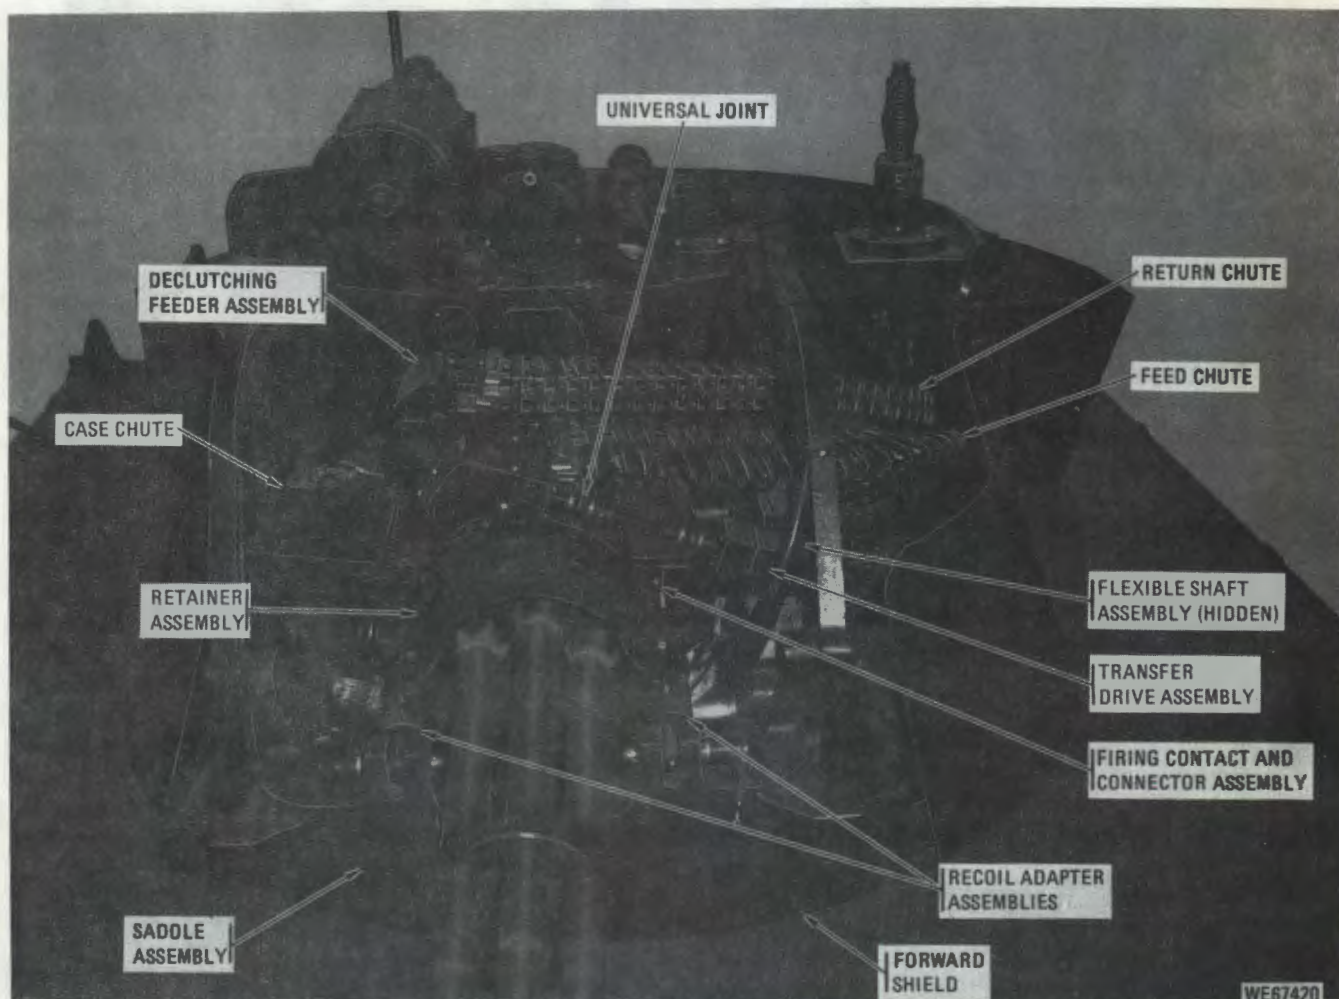
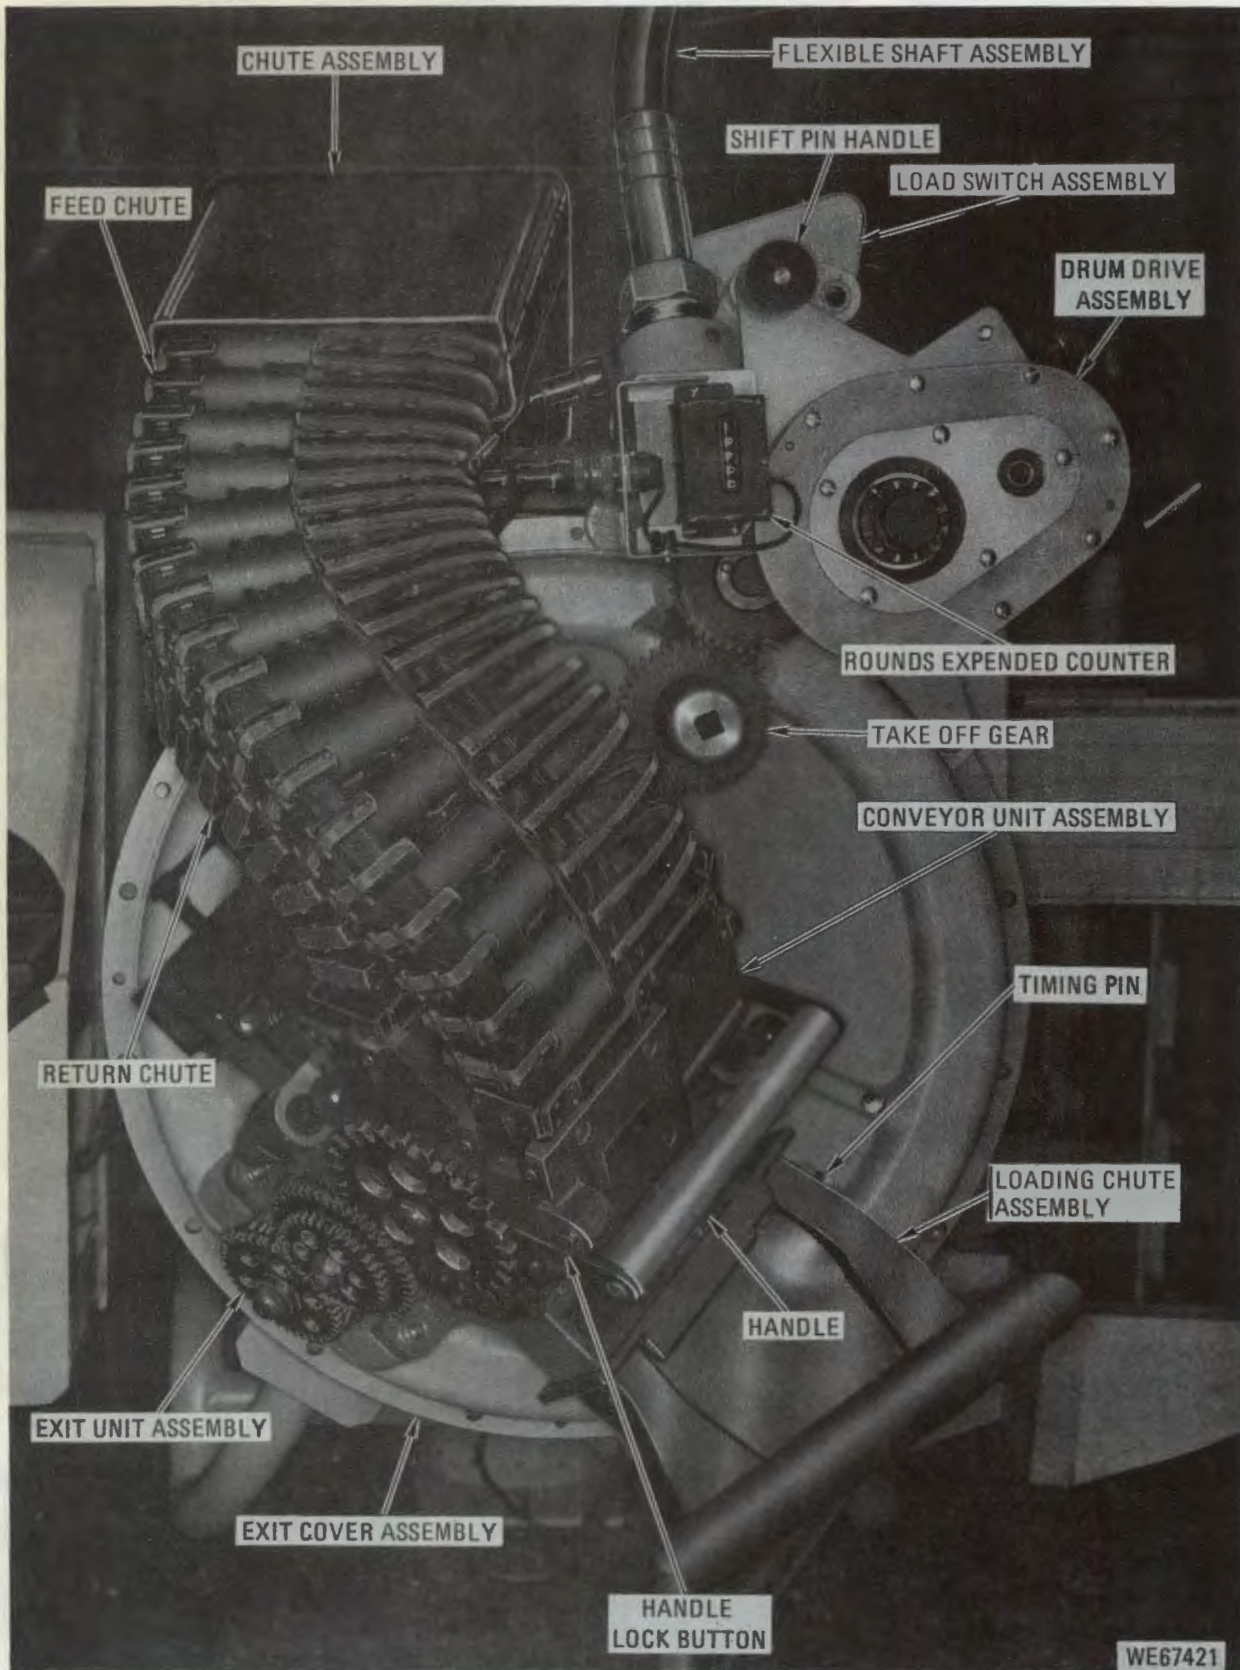

Figure 1-13. Upper XM157 mount components, front view.
Figure 1-14. Lower XM157 mount components, left end view.
(3) *Ammunition storage and feed group.* The ammunition feed and storage group consists of the drum assembly (fig. 1-11), conveyor system, and case chute. It also includes the universal joint (fig. 1-13), transfer drive assembly and the flexible shaft assembly which transmit drive power from the de-clutching feeder assembly to the drum assembly.
3. *Drum drive assembly.* The drum drive assembly (fig. 1-14) drives the inner drum and scoop disc assembly through gears in the exit cover assembly. The drum drive assembly provides three modes of operation: F (fire), N (neutral), and L (load). In the fire mode, the assembly links the flexible shaft to the gears on the exit cover so that the drum is driven in a direction to feed ammunition. In the neutral mode, the exit cover assembly gears are free to be driven manually for maintenance and timing. In the load mode, the exit cover assembly gears are driven opposite to the fire direction by a motor on the drum drive assembly. The motor is controlled by a loading switch on the drum drive assembly.
4. *Exit unit assembly.* The exit unit assembly (fig. 1-14) performs two functions. During loading, it removes ammunition links from the rounds and feeds the rounds to the exit cover assembly. During firing, the exit unit assembly transfers rounds from the exit cover assembly to the conveyor elements in the conveyor unit assembly.
1. *Conveyor unit assembly.* During firing, the conveyor unit assembly (fig. 1-14) guides the conveyor elements from the return chute past the exit unit assembly, where a round is inserted, and into the feed chute. During loading, the conveyor unit assembly is locked in an inoperative condition away from the exit unit assembly.
2. *Feed chute.* The feed chute (fig. 1-14) conducts round-filled conveyor elements from the conveyor unit assembly to the declutching feeder assembly. (fig. 1-13).
3. *Return chute.* The return chute (fig. 1-14) conducts empty conveyor elements from the declutching feeder assembly to the conveyor unit assembly.
5. *Declutching feeder assembly.* The declutching feeder assembly (fig. 1-13) takes round-filled conveyor elements from the feed chute, feeds the rounds into the
(c) *Case chute.* The case chute (fig. 1-13) guides empty shell cases or unfired rounds from the chute adapter assembly to an area clear of the cannon.